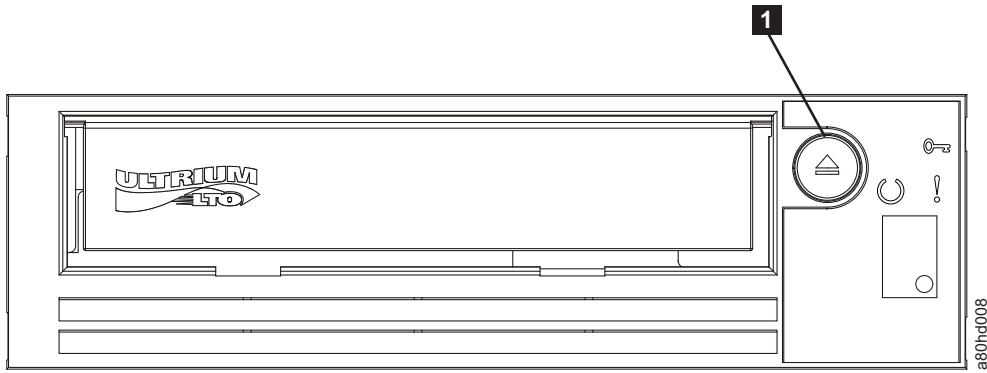

Figure 3-3. Resetting the Drive
You can reset the drive without powering off the drive and system. This may be necessary if the drive stops responding. To do this, press and hold the eject button on the front panel of the tape drive for 10 seconds (Figure 3-3 on page 3-2). The drive forces a dump of vital technical data to drive memory and overwrites the existing dump. The drive then reboots to allow communication.
2. Press the eject button (see **1** in Figure 3-3 on page 3-2). The drive rewinds the tape and ejects the cartridge. The ready/activity LED flashes green while the tape rewinds, then goes out before the cartridge ejects.